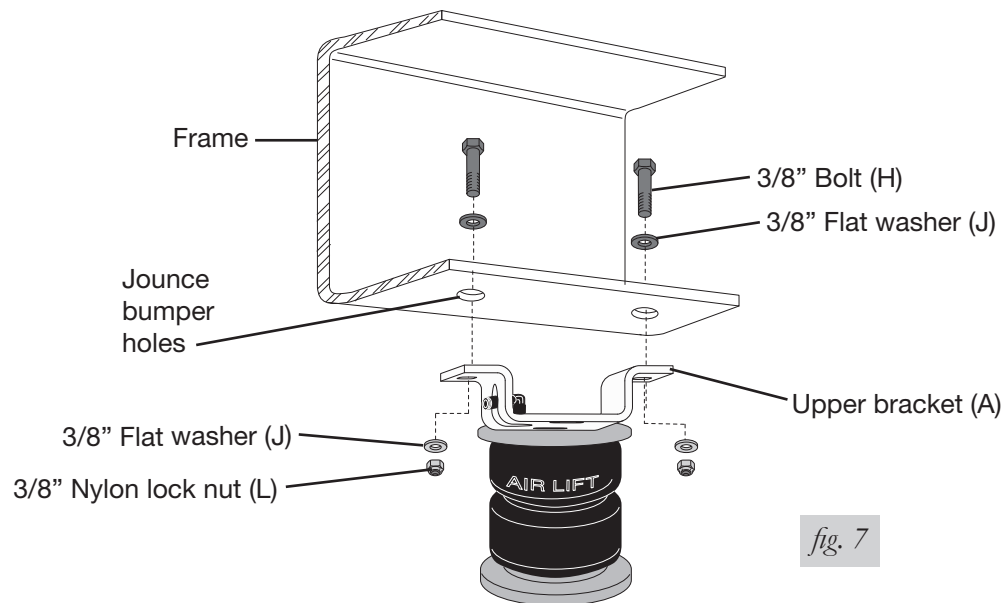

fig. 7
2. Insert two 3/8" bolts (H) and flat washers (J) through the existing jounce bumper holes and through the slotted holes in the upper bracket (Fig. 7).
3. Attach the upper bracket using two flat washers (J) and nylon lock nuts (L) on each previously installed bolt (Fig. 7).